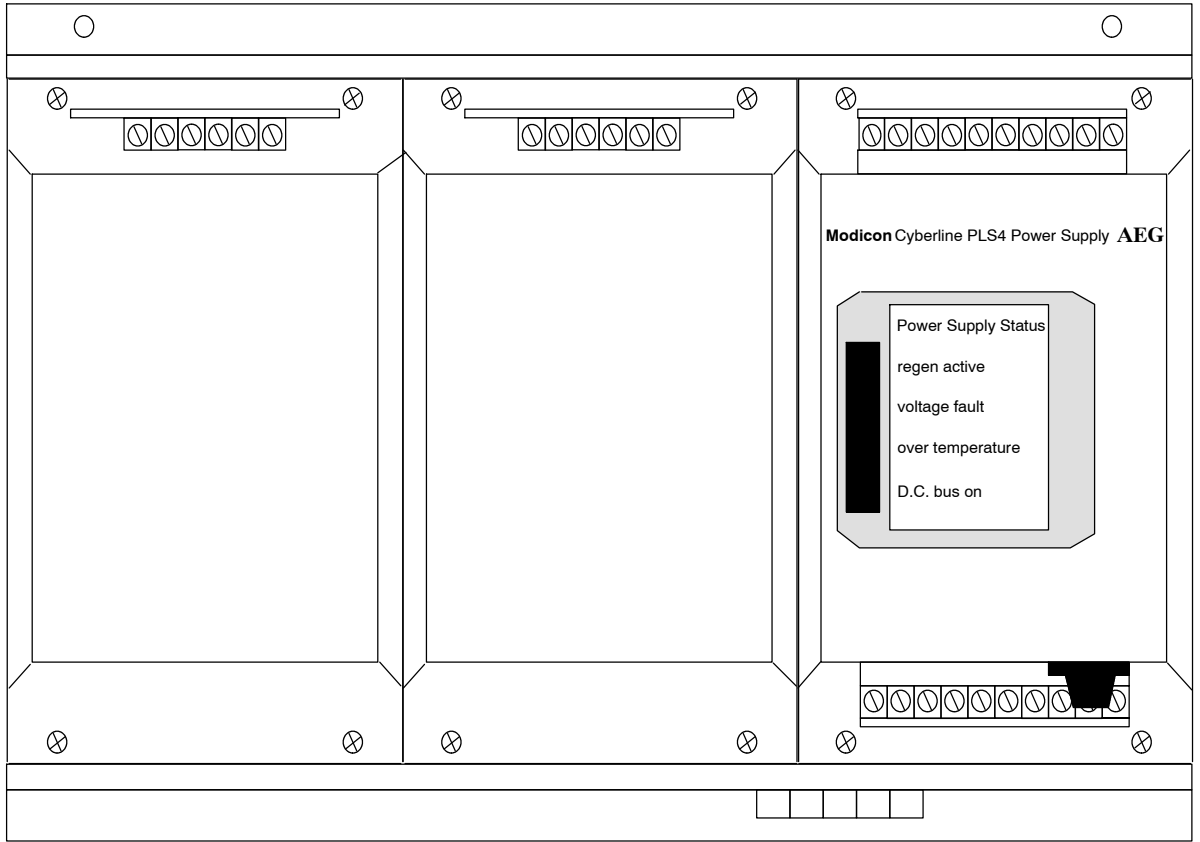

Figure 16 PLS4 Power Supply Mounted on Mounting Plate
Caution Mount the higher heat dissipating drive in the middle with the other drive on one side and the power supply on the other side. See Figure 16. When two CL1030s are used, be sure you follow good ventilation and heat dissipation procedures. Apply thermal compound between the power supply base plate and the drive mounting plate is necessary to provide adequate thermal transfer. Apply the compound in an even layer on both surfaces for most effective heat transfer.
2. Position the power supply on the mounting plate in one of the two side positions, as shown in Figure 16. The two rows of holes along the edges of the mounting plate will line up with the power supply mounting holes.